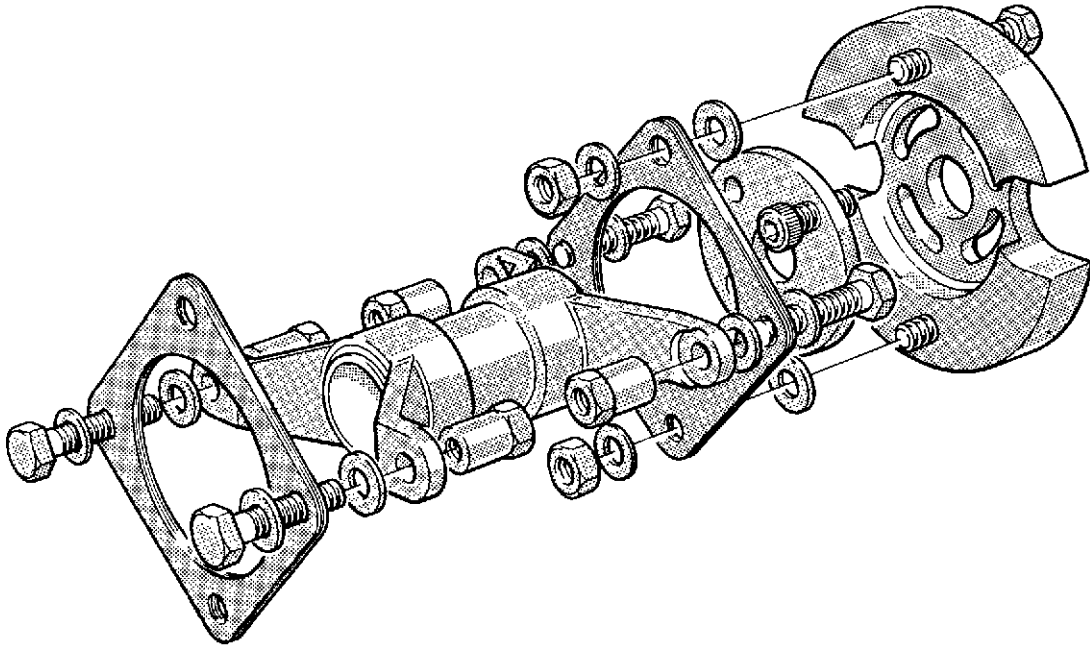

Fig. 28 Injection pump spring plate coupling
- 152 Assemble the injection pump drive shaft, two packs of eight spring plates, adjustable coupling flange and the injection pump flywheel as shown in figure 28. Tighten the four long reach nuts and the two standard nuts to a torque loading of 120 Nm (88 lbf.ft.).